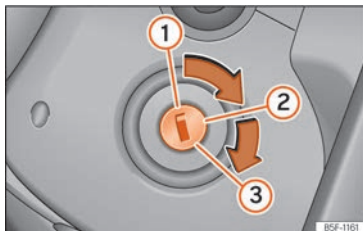

Fig. 135 Ignition key positions.
Key positions »» Fig. 135
- Turn the key to position »» **Fig. 135** ②. Preheating occurs in diesel vehicles .
- Keep turning the key to position »» **Fig. 135** ③ without stepping on the accelerator.
- Once the engine starts, release the key. When it is released, the key returns to position ②.
- *Vehicles with ignition locks:* Turn the key to position »» **Fig. 135** .